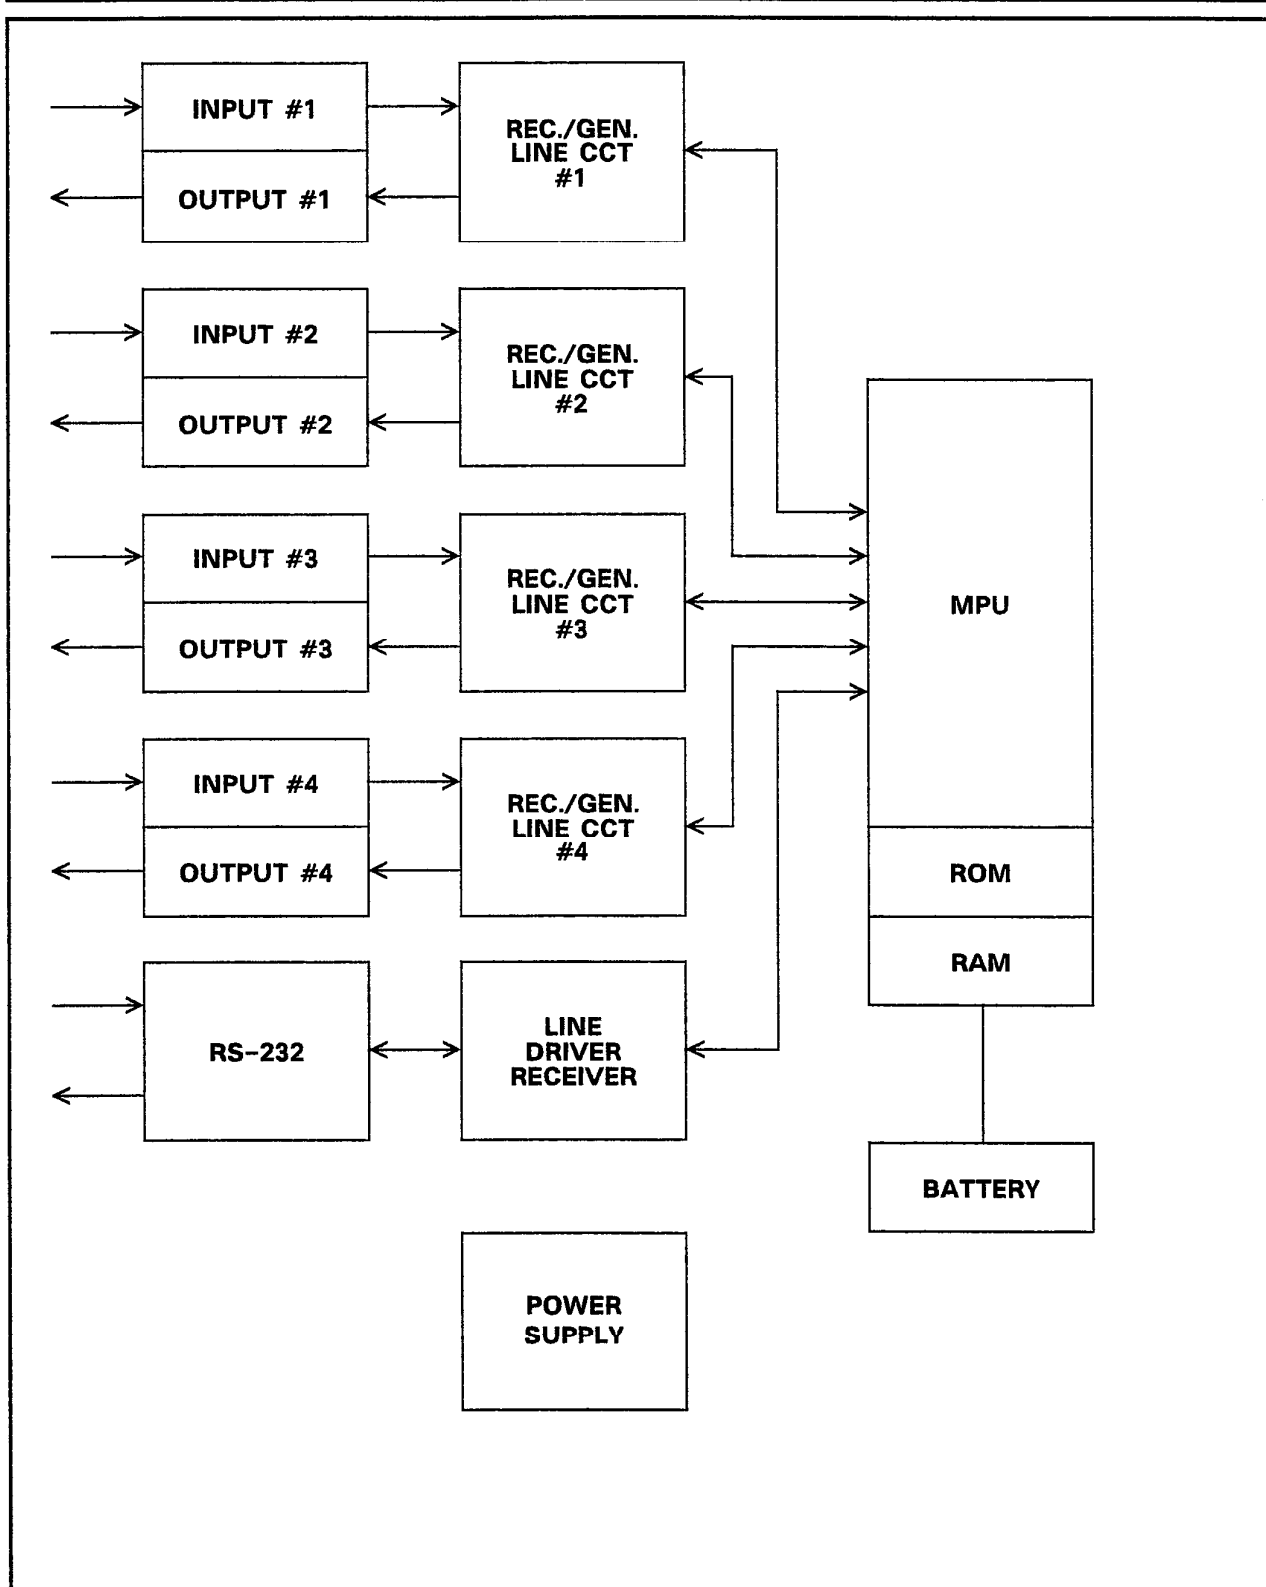

FIGURE C1: SMarT-1™ SYSTEM BLOCK DIAGRAM
**C1.01** Figures C1 and C2 on the following pages are a block diagram and a simplified electrical diagram for the SMarT-1™ Dialer. Table C1 is a listing of the standard 7-bit ASCII codes followed by the code equivalents. Table C2 contains Legal Dialer Programming Input Characters.